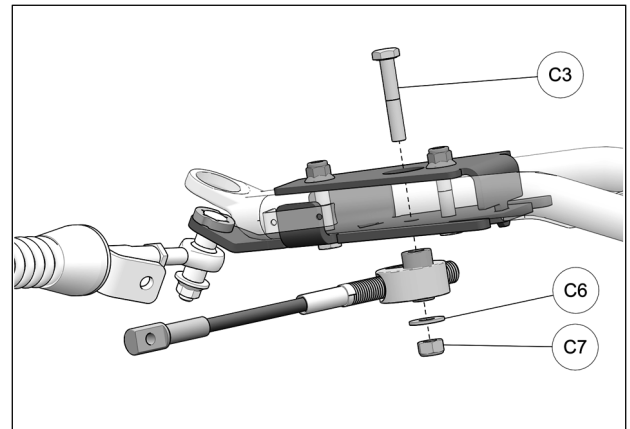

Fig. 19
11. Slip steering limiter cable assembly over bolt (C3) and use washer (C6) and nut (C7) to secure assembly to anchor bracket. Tighten nut to 50 N•m [37 lb•ft]. Refer to Fig. 19